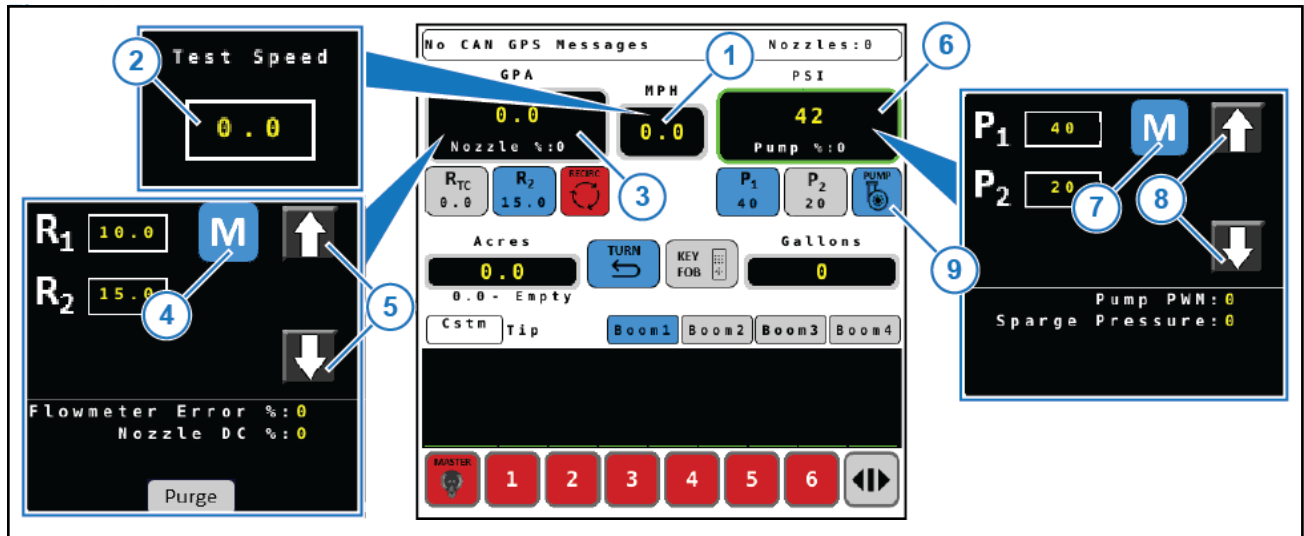

Figure 30: Boom Shutoff Wet Test
5. Select the speed box (Figure 30, Item 1).
6. Set a test speed (Figure 30, Item 2).
7. Select the rate box (Figure 30, Item 3).
8. Select M (Figure 30, Item 4) and then use the arrow icons (Figure 30, Item 5) to change the rate.
9. Select the pressure icon (Figure 30, Item 6).
10. Select M (Figure 30, Item 7) and then use the arrow icons (Figure 30, Item 8) to change the pressure.
11. Select the Pump icon (Figure 30, Item 9) to turn on pump.